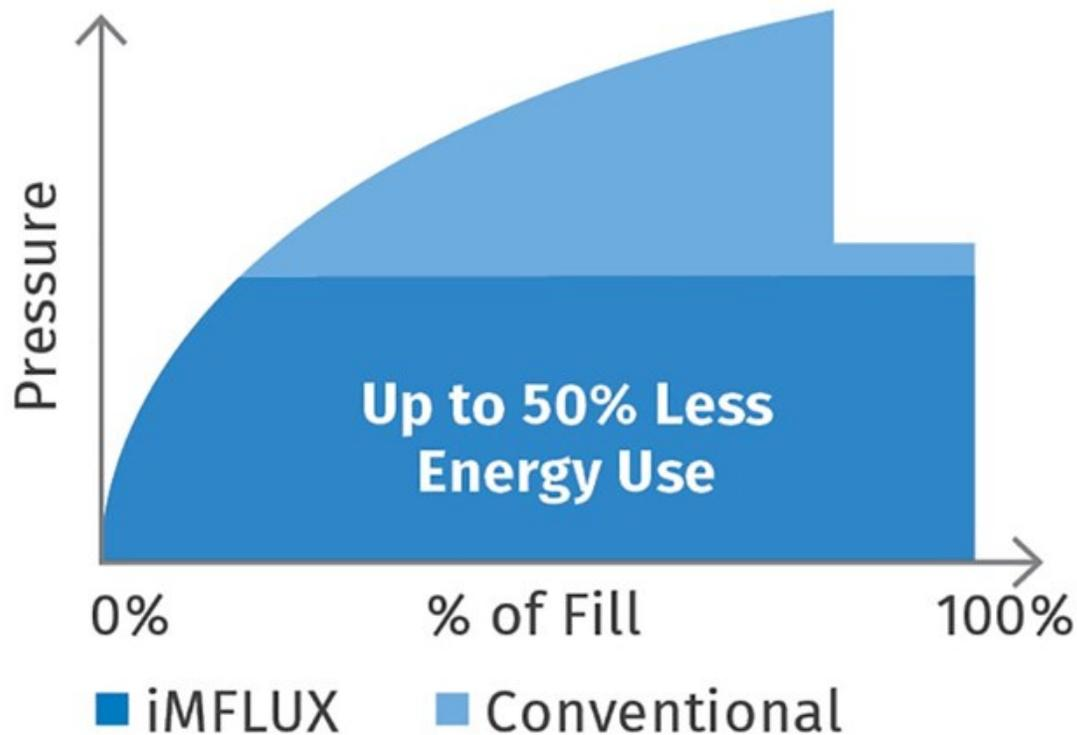

FIG 5 Lower filling pressures and shear energy with iMFLUX greatly reduces energy consumption in molding.
- *Filling energy* is reduced up to 50%, since iMFLUX uses lower filling pressures and does not rely on high shear energy to fill the mold. Figure 5 shows how the energy to fill the mold is reduced, since the work required to fill the mold is lower than for a typical conventional decoupled process.